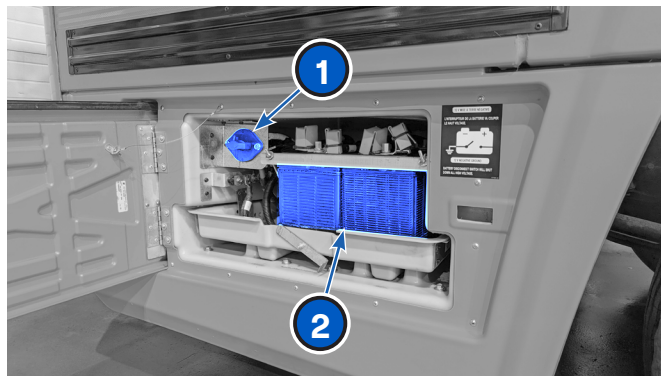

Figure 25 - 12 V battery box and safety switch
- Battery disconnect switch (low voltage only) (**Figure 25 no. 1**)
- Two 12V batteries (**Figure 25 no. 2**)